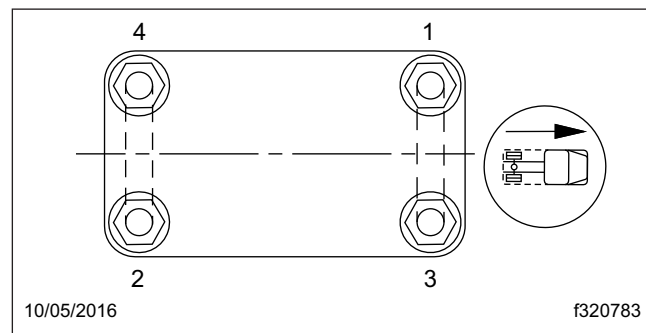

Fig. 17, Tightening Pattern for U-Bolt High Nuts
* Tighten in a diagonal pattern as shown in **Fig. 17**.